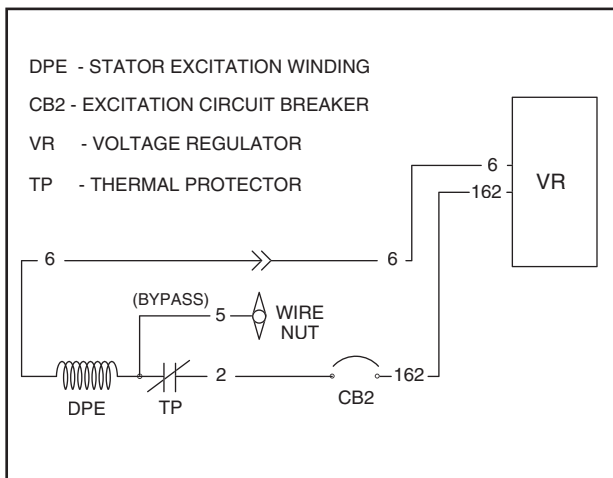

Figure 2. Bypassing the Thermal Protector
1. If normal DPE winding resistance was indicated in Step 5, but INFINITY is indicated in Step 4, bypass the thermal protector by connecting Wire No. 5 to the excitation circuit breaker (CB1). See Figure 2.